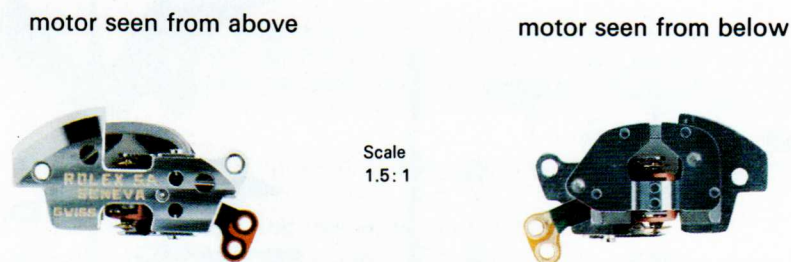

Fig. 11
8. Cleaning the motor No. 6011 (Fig. 11)